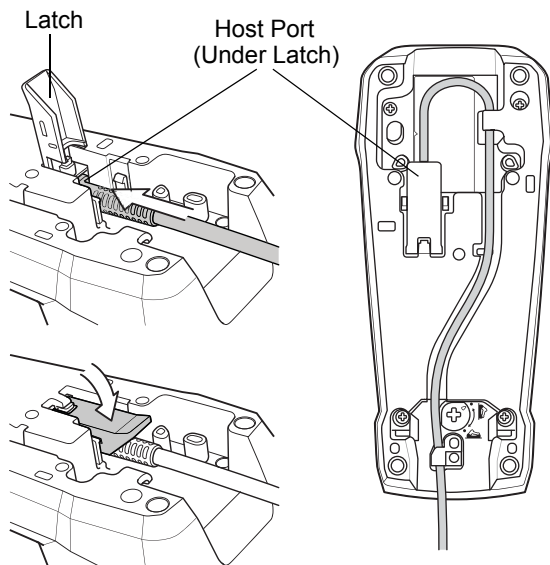

Figure 1-5 *Connecting the Cables to the Cradle*
3. Lift the latch and connect the interface cable into the cradle's host port and then close the latch. See Figure 1-5.